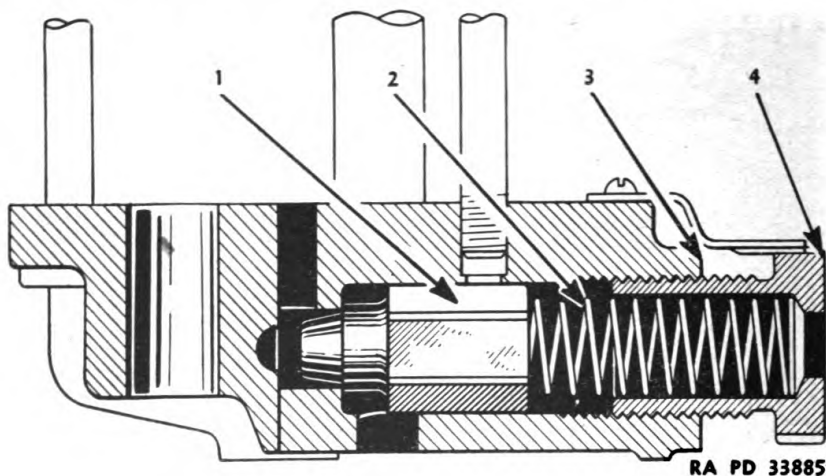

FIGURE 45.—Relief plunger.
e. Relief plunger (1) (fig. 45) is hexagonal in form which permits the by-passed oil to flow on all six sides of the plunger, reducing any tendency for the plunger to stick in the bore of the pump. Adjusting screw (4) governs the tension on the relief plunger spring (2). Before removing the plunger, mark adjusting screw and pump body (3) and count number of turns required to remove the screw. In installation, the original tension can be restored to the spring by reinstalling the screw the same number of turns.